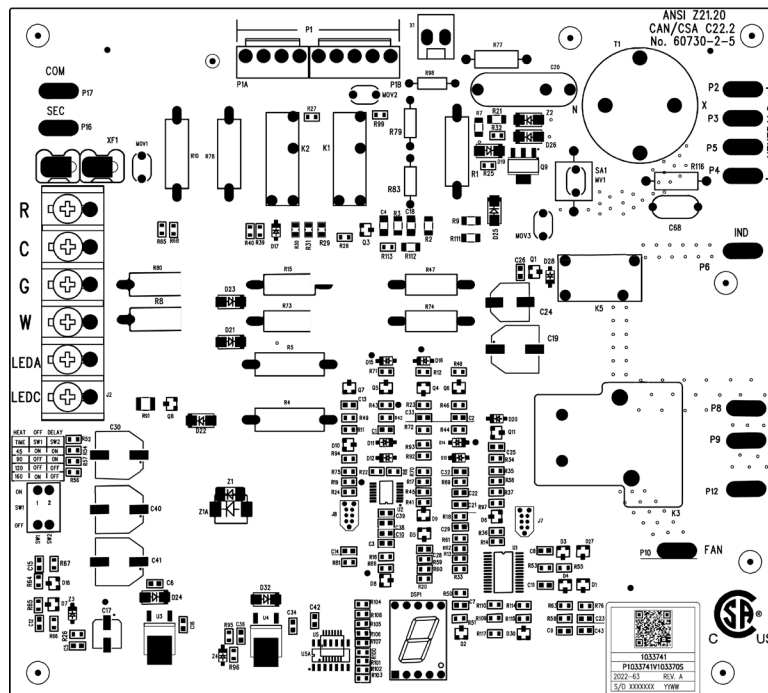
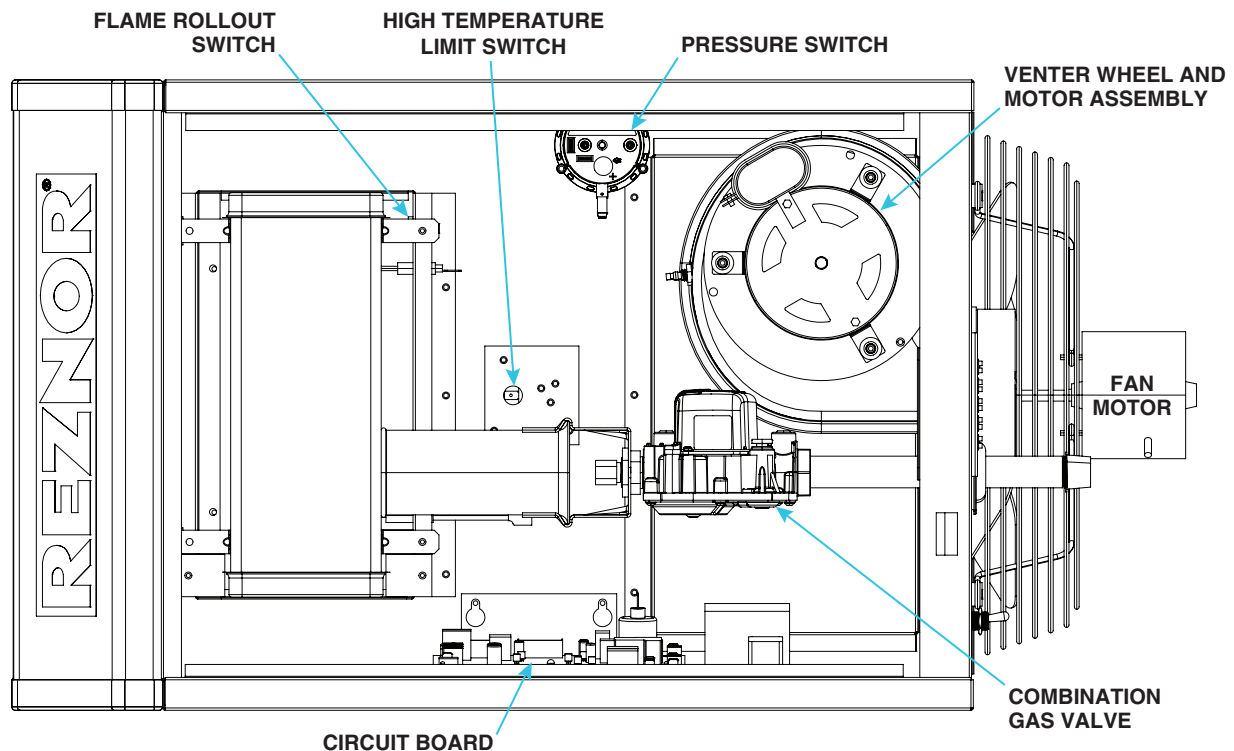

Figure 18. Circuit Board (DSI Control Module)
Figure 20. Control Locations (Typical)
- The circuit board (see Figure 18) is located inside on the bottom of the control compartment. The circuit board is polarity sensitive. The circuit board is factory-wired, but it is advisable to check to ensure that the black wire is the hot wire connected to terminal L1 and that the white wire is the neutral wire.
- The pressure (combustion air proving) switch (see Figure 20) is a pressure-sensitive switch that monitors air pressure to ensure that proper combustion airflow is available.
All units are equipped with a temperature-activated, automatic-reset high temperature limit switch (see Figure 20). The switch is factory-set and is non-adjustable. If the setpoint is reached, the switch interrupts the electric supply to the combination gas valve. This safety device provides protection in the case of motor failure or lack of airflow due to a restriction at the inlet or outlet.
The venter motor is assembled to the venter wheel (see Figure 20) and operates to provide combustion airflow. Operation is controlled by the circuit board (refer to Circuit Board \(DSI Control Module\) section).
Unit sizes 30–125 of model UDXC are equipped with a temperature-activated, manually-reset flame rollout switch (see Figure 20). The switch, located behind the top burner body support, is factory-set and is non-adjustable. If the setpoint is reached, the switch interrupts the electric supply to the gas valve. If the flame rollout switch activates, identify and correct the cause before resetting the switch.
The combination gas valve (see Figure 20) is powered by the 24V control circuit through the thermostat and safety controls. The diaphragm-type valve is pre-set at the factory and provides regulated gas flow.
The fan motor (see Figure 20) is equipped with automatic-reset thermal overload protection. If the motor does not run, the cause may be due to improper current. Ensure that the correct voltage is available at the motor.
The heater's ignition system is controlled by a circuit board (see Figure 20), a Direct-Spark Integrated (DSI) control module (see Figure 18), that monitors the safety devices and controls the operation of the fan and venter motors and the combination gas valve between heat cycles. The module's Seven-Segment Display (SSD) is visible through a viewport on the access door panel. In addition, there is a status LED on the bottom of the heater. Its status indications are **off** (heater is not powered or control board fault), **steady on** (heater is on with no faults), or **flashing** (heater is on with fault(s)). Additional status indications appear on the display at the bottom of the control module (labeled as DSP1, see Figure 18). The display's codes are listed and described in the Unit Troubleshooting Using DSI Control Module section.